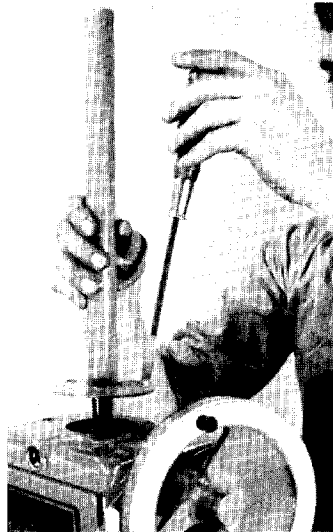

Figure 2
7.1 Use three round head screws (furnished) to fasten Elevating Screw Guard to Column Cap. (*Fig. 2*)